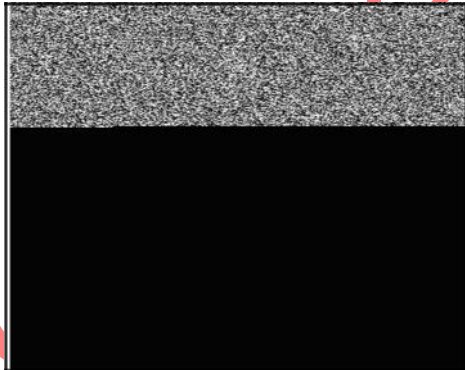

Figure 40
7. Install limiter cap (if equipped) on idle mixture screw (Figure 40).